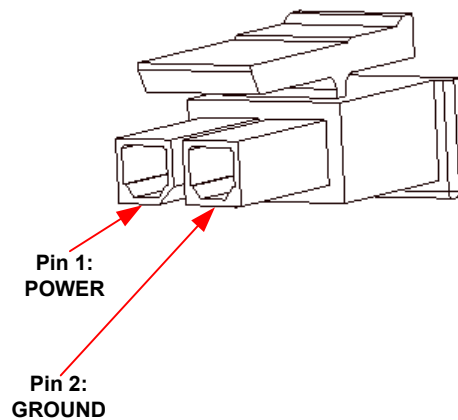

Figure 2: Harness
- b. On the power harness, place the negative probe of a multimeter on Pin 2 and the positive probe on Pin 1 (See Figure 2 for pin-out).